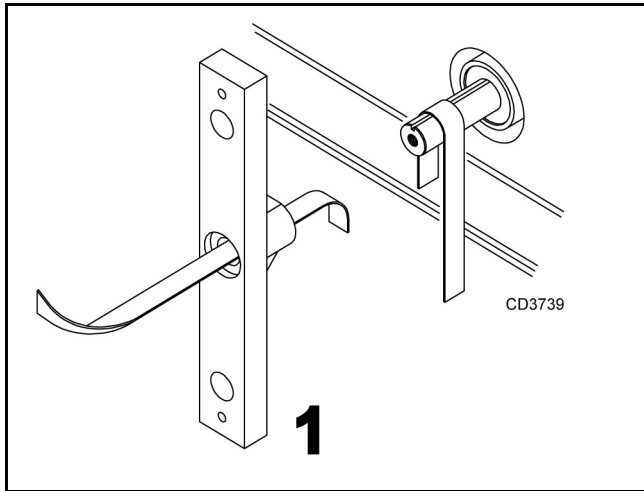

Figure 26.
1. Using emery cloth (220 or finer), remove surface rust and foreign material from hub, splined gearbox vertical shaft, and crossbar. See Figure 26.